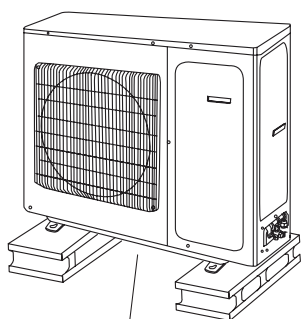

Fig.17
3.The outdoor unit should be installed at least 3cm above the floor in order to install drain joint.(As show in Fig.17)